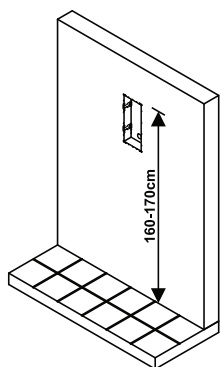

Fig. 59
1. It is recommended that the flush box (C) is mounted into the wall approximately 165-170cm between the top of the box and the floor level as shown in **Fig.59**.